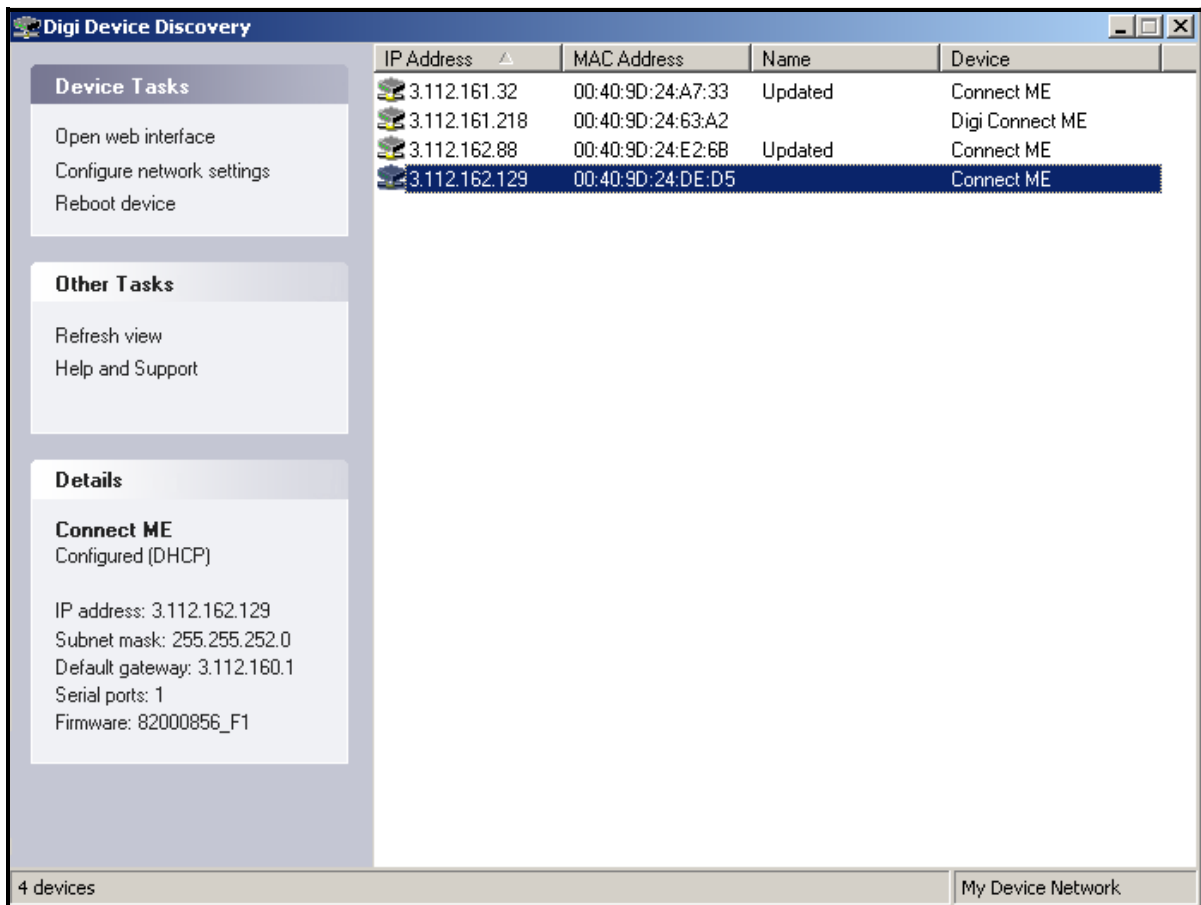

Figure 15: Finding the Assigned IP Address
1. Run the *Digi Device Discovery Program* (see Figure 15).